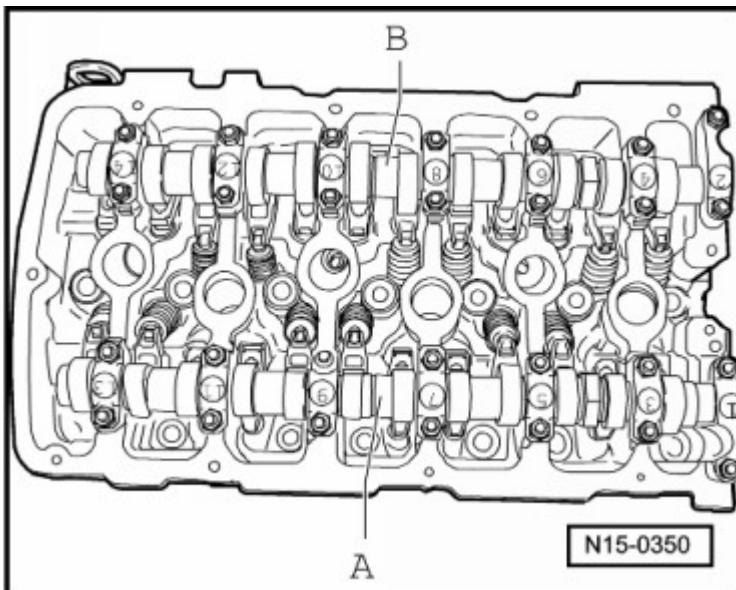

Fig. 15: Identifying Intake Camshaft And Exhaust Camshaft
- Exhaust camshaft tightening sequence **Fig. 15**